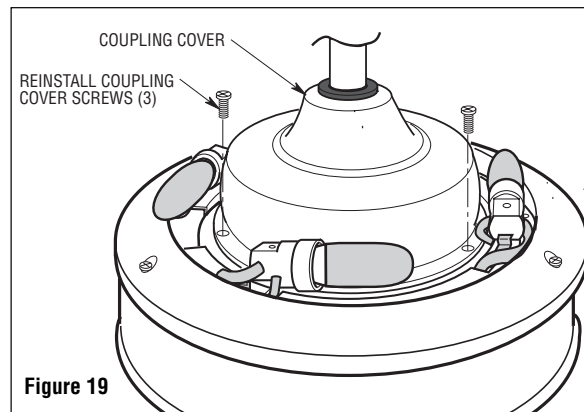

Figure 19
7. Reinstall the three coupling cover screws to secure the coupling cover (Figure 19).